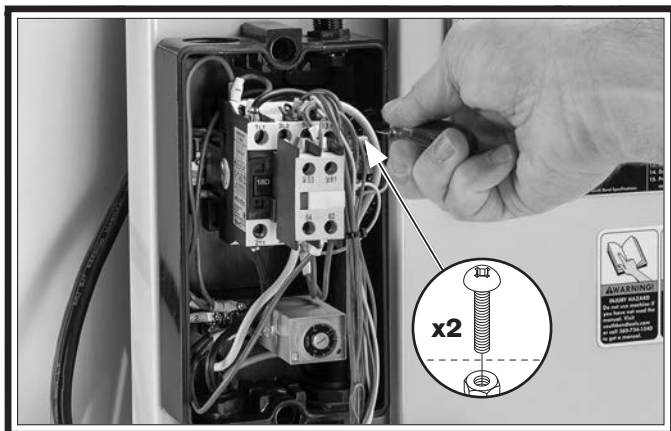

Figure 29. Attaching switch box to side panel.
- 35.** Attach switch box to side panel underneath pressure gauge with (2) 10-24 x 3/4" Phillips head screws and (2) 10-24 hex nuts (see **Figure 29**).